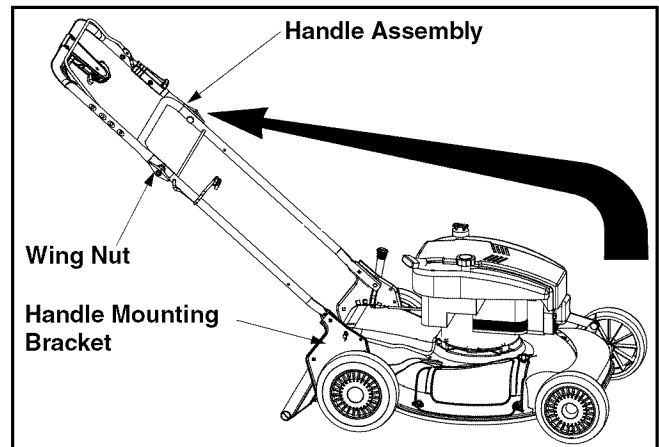

Figure 2
- Lift up and pull back on the upper handle to raise the handle into the operating position. See Figure 2.
- Tighten wing nuts on each side of the handle making sure that the carriage bolts are seated properly into the handle. See Figure 2.